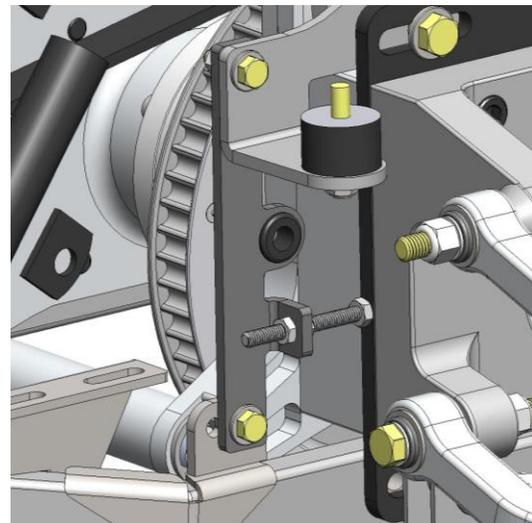

Figure 16
- c. Install belt adjuster brackets using 3/8-16x1-1/4" bolts, washers, and nylock nuts. See Figure 16
- b. Set belt tension and alignment by moving independent drive train unit forward or rearward as necessary using adjuster bolts. Figure 16. Belt tension can be measured by total vertical movement and should be approximately 3/4"-1" with a new belt or 1" to 1-1/2" with a used belt. Remember, TOTAL vertical movement.